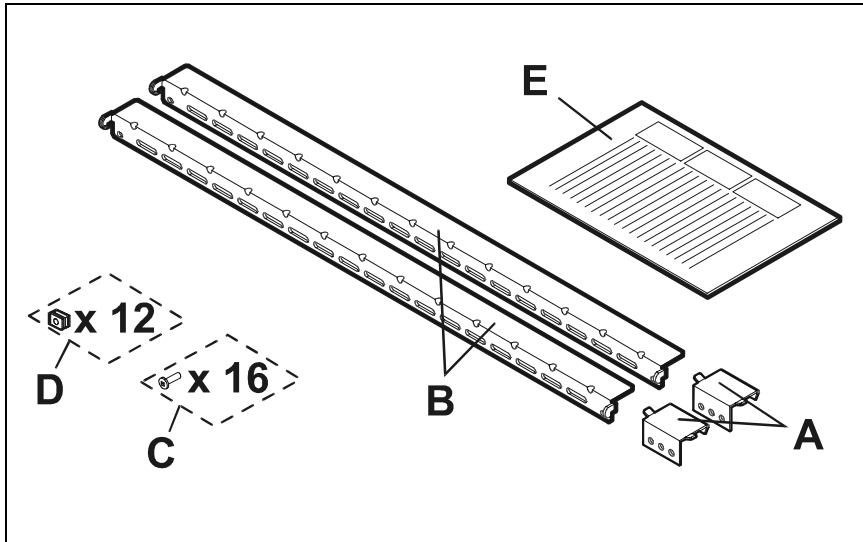

Figure 15 Rail Kit HP A5250A Contents
1. Unpack rail kit HP A5250A and verify the contents shown in Figure 8 and Figure 15.